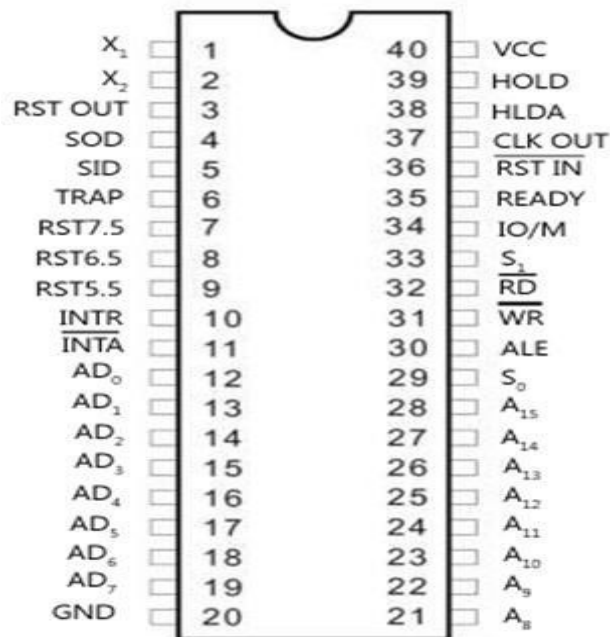

Fig .2 Pin Diagram of 8085
- Has 40 pins as shown in fig 2